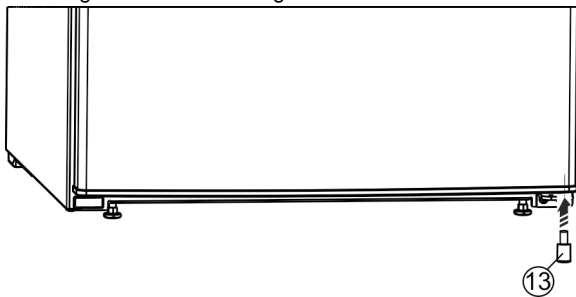

Fig. 26 \*
- ▶ Insert the spacer Fig. 26 (13) back under the right-hand side of the door, as it is important for the stability of the appliance.\*